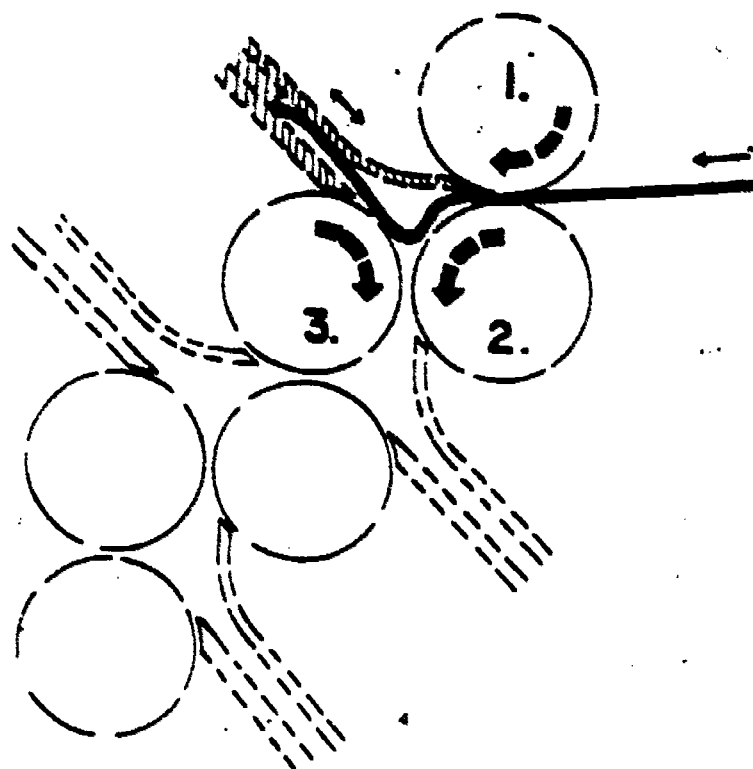

Figure 9-4. Step 2: The sheet buckles between the second and third rollers.
b. *Step 2.* The forward movement of the sheet, stopped by the fold plate gage, causes the sheet to buckle and be drawn in between the 2d and 3d rollers, which fold the sheet at the required first fold line (fig. 9-4). Note that in steps 1 and 2, the first roller acts only as a drive roller, while the second roller, which is a stationary (not tension) adjustable roller, operates with the first as a driving roller and then with the third as a fold roller for fold plate number 1.